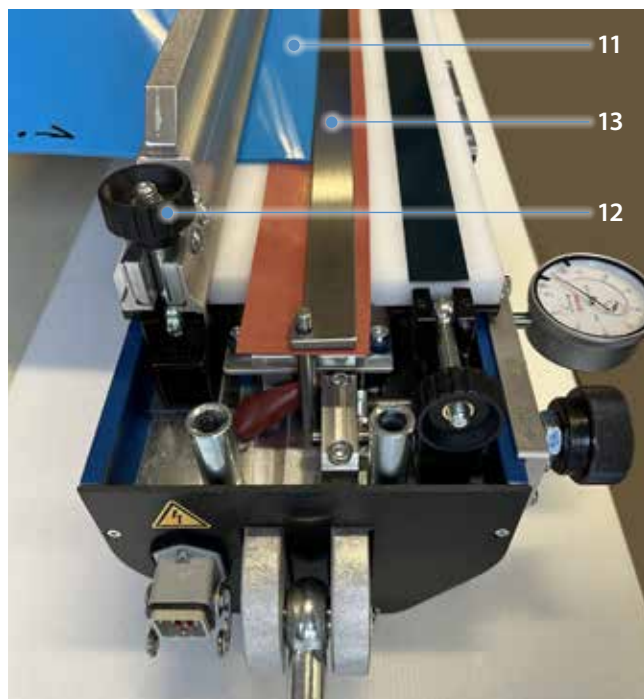

Fig. 4.2.5
10. Insert the first end of the belt (11) in the middle (underside at the bottom), attach the belt holder and affix the inserted belt material with knurled screws (12). (Fig. 4.2.5)
If the belt is narrower than the nominal width of the press, the rest of the area to be heated must be lined with extra material to compensate for the difference. The belt holders must also be shimmed to prevent bending. If the heating surface on the bottom part of the press is not covered with material, pressure distribution will be poorer. At the same time, there is a risk of overheating or the material not melting. (Not shown in fig. 4.2.5)
11. Press the end of the belt flush against the adjustment aid and fix it in its final position by tightening the knurled screws (12) evenly. (Fig. 4.2.5)
12. Remove the adjustment aid (13). (Fig. 4.2.5)